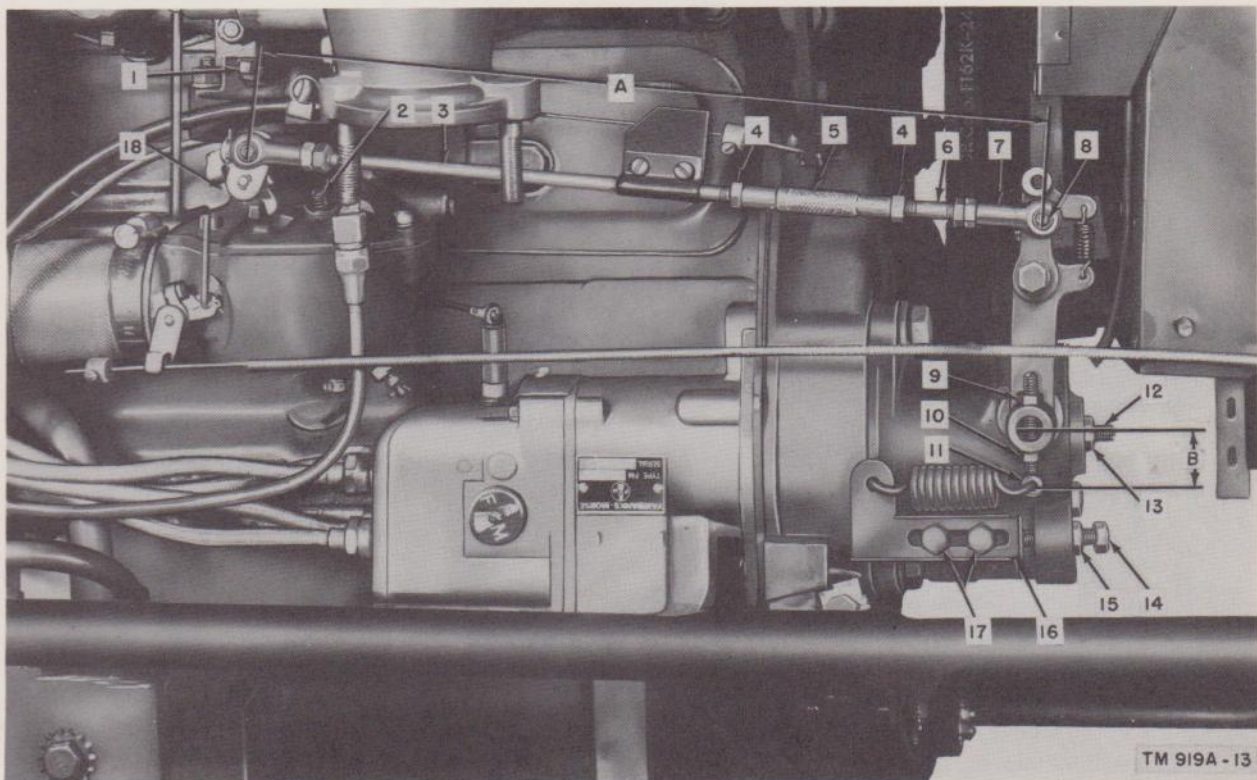

Figure 13. Engine speed governor adjustments.
- (1) Governor adjustment to correct frequency
(fig. 13). If the indicated frequency is abnormal and thereby causes improper voltage output, correct the frequency by making the governor adjustments as instructed in subparagraph (1)(a) through (d) below.
- (a) To adjust the governor to correct abnormal frequency, the engine must be stopped. Loosen the lock nuts (4) and rotate the adjusting sleeve (5) until the dimension A is approximately 11¼ inches. Check the eyebolt dimension B to see that it is 7/8 inch. To increase this dimension, loosen the upper adjusting nut (9) and tighten the lower adjusting
- (c) Loosen the two shoulder bolts (17) that hold the adjustment slide (16). Loosen the lock nut (15) and change the engine speed by turning the adjustment screw (14). Turn the screw clockwise to increase the engine speed and counterclockwise to decrease the engine speed.
- (d) When the frequency meter indicates 400 cps under load or about 405 cps under no load, secure the adjustment by tightening the lock nut (15) and shoulder bolts (17). If necessary, readjust the linkage between the governor and carburetor (subpar. (a) and (b) above).
- (2) *Governor adjustment to correct engine surge under no load.* If the engine is hunting or surging under no load, correct the condition by adjusting the engine speed governor as follows:
- (a) Loosen the lock nut (13) and turn the bumper screw (12) in, until the engine stops surging. Do not turn the bumper screw in too far or the engine speed will increase and the governor will not function properly.
- (b) When the bumper screw has been adjusted properly, secure the setting by tightening the lock nut (13).
- (c) If the frequency drop from no load to rated load is greater than the specified 407 to 400 cycles, decrease dimension B (fig. 13) by loosening the lower adjusting nut (10) and tightening the upper adjusting nut (9). Then readjust the no-load speed of the engine (subpar. (1)(c) above) until a frequency of 405 cps is obtained.
- (3) *Governor adjustment to correct engine surge under load.* If the engine is hunting or surging under load, correct the condition by increasing dimension B. To do this, loosen the upper nut (9) and tighten the lower nut (10). Readjust the engine no-load speed in accordance with the instructions in subparagraph (1)(c) above.
- (4) *Dc voltage regulator adjustment.* If necessary, refer to paragraph 18b and adjust
- (5) *Carburetor adjustments.* The carburetor is provided with two external adjustments, the throttle stop screw (18, fig. 13) and the idle-adjusting needle (2). If the carburetor idling adjustment is required after the engine has warmed to operating temperature, proceed as follows: Set the hand throttle to an idling speed of approximately 500 to 700 rpm with the engine under *no load*, or to a point where the carburetor throttle stop screw (18) will touch or nearly touch the throttle stop pin (21, fig. 24). Turn the idle-adjusting needle (2, fig. 13) in (clockwise) until the engine begins to run roughly or falters, then slowly turn the screw out (counterclockwise) until the engine runs smoothly. Recheck the adjustment after the engine has been operating under load for about ½ hour.